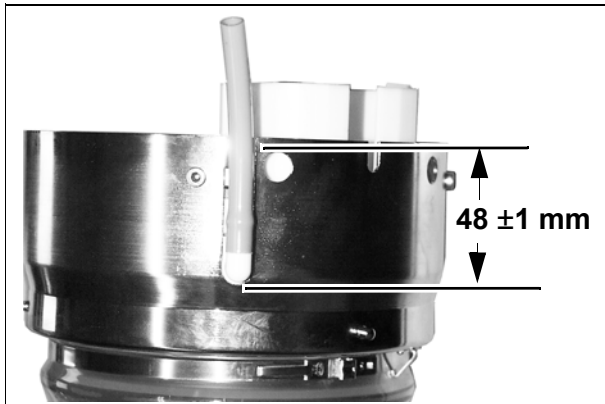

Fig. 5
- Shorten both hoses at the shock wave head corresponding to the dimensions in Fig. 5.